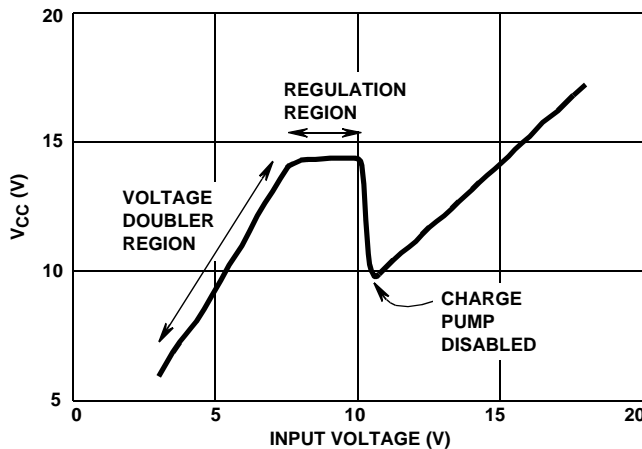
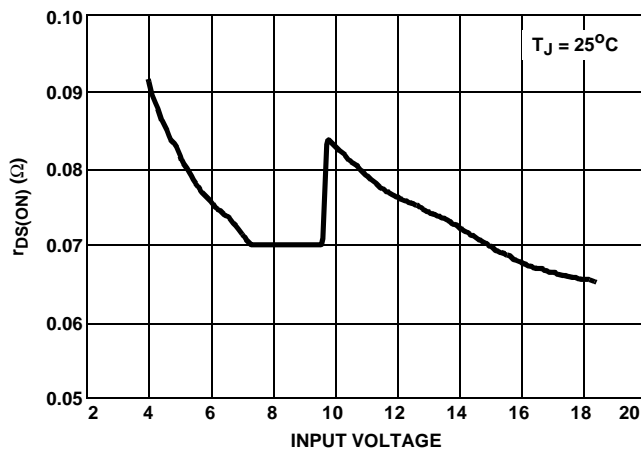
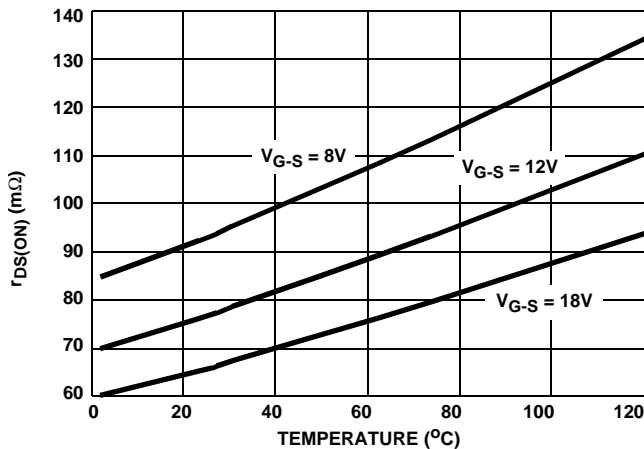

FIGURE 10. CHARGE PUMP REGULATOR INPUT VOLTAGE CHARACTERISTICS
FIGURE 14. $r_{DS(ON)}$ vs INPUT VOLTAGE
FIGURE 15. $r_{DS(ON)}$ vs JUNCTION TEMPERATURE
The charge pump regulator supplies control power (V_{CC}) to the internal functions of the HIP5020. The charge pump operates for input voltage levels below 9.8V and is disabled for input voltages above 9.8V. Figure 10 shows the charge pump output voltage (V_{CC}) as a function of the input voltage (V_{IN}). For input voltages below 9.8V nominally, the charge pump operates in two regions - as a voltage doubler and as a voltage regulator. The charge pump operates as a normal voltage doubler when V_{CC} is below approximately 14.8V. The charge pump limits V_{CC} to approximately 14.8V in the regulation region. For input voltages above 9.8V, the charge pump is disabled and V_{CC} follows the input voltage less a diode drop.
Conduction losses are a significant portion of the power dissipation in a DC-DC converter. The HIP5020 conduction losses are the product of the square of the average output current and the MOSFET on-resistance - $r_{DS(ON)}$. The $r_{DS(ON)}$ of the MOSFETs is a function of V_{CC} and junction temperature. V_{CC} changes with the input voltage as shown in Figure 10 above. Figure 14 shows the maximum $r_{DS(ON)}$ of both MOSFETs as a function of input voltage for a junction temperature of 25°C. The junction temperature of the HIP5020 also effects $r_{DS(ON)}$. Figure 15 shows the $r_{DS(ON)}$ as a function of temperature for three gate voltage levels. The $r_{DS(ON)}$ can be estimated at a given input voltage and junction temperature as follows:
- 1) Assume that the gate voltage is equal to V_{CC} . Find the gate voltage at 25°C from Figure 10.
- 2) Multiply this number by the $r_{DS(ON)}$ shown in Figure 15. Interpolate as necessary.